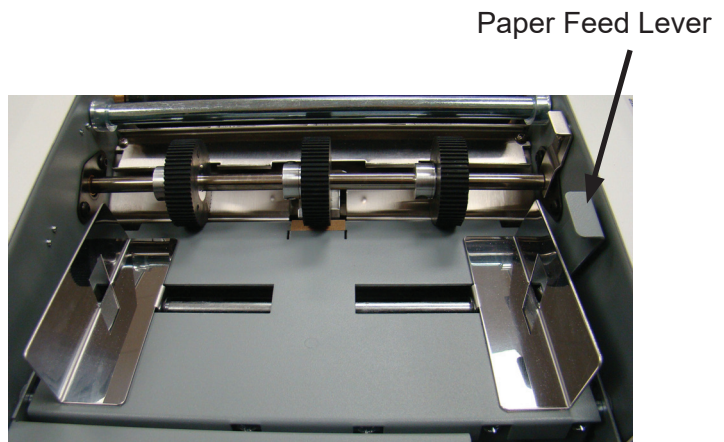

Figure 2
4. Test fold settings. Push the paper feed lever (figure 2) down, place one form onto the in-feed table and press the start button. Examine document and adjust fold plates if necessary (see fold plate adjustment on page 3).